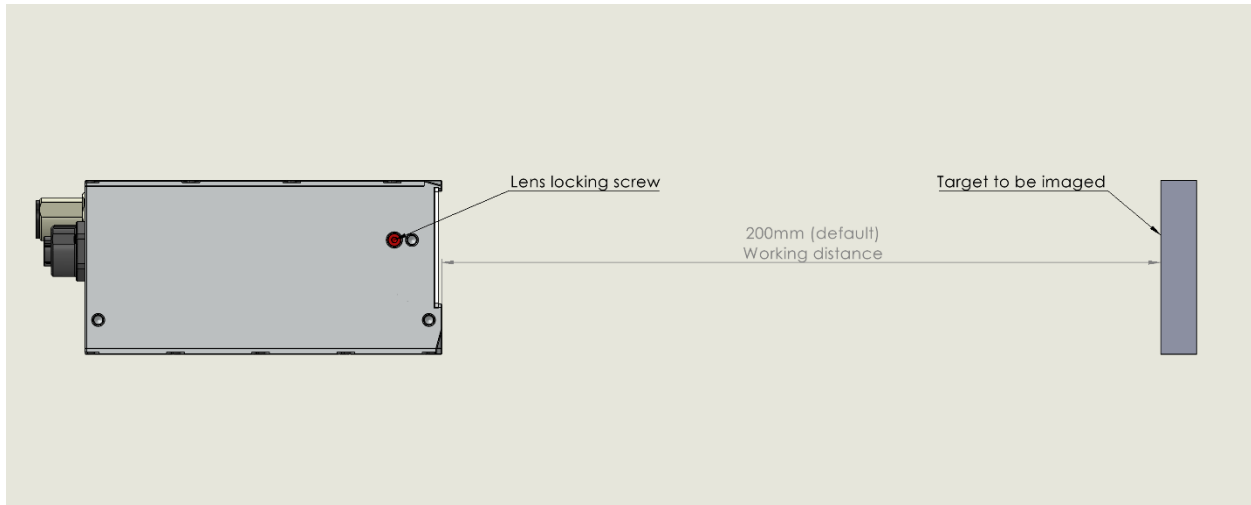

Fig. 1. Definition of working distance (WD).
- The working distance (WD) of the camera is measured from the frontmost surface of the camera unit body (see Fig. 1 above)
Position the camera to the desired location with respect to the target (see Fig. 1) in such a way that the lens locking screw and lens adjustment screw are accessible. By default, the lens locking screw is attached to the right side of the camera (looking from back) but it can be moved to the left side if needed (see the following section for more detailed instructions).